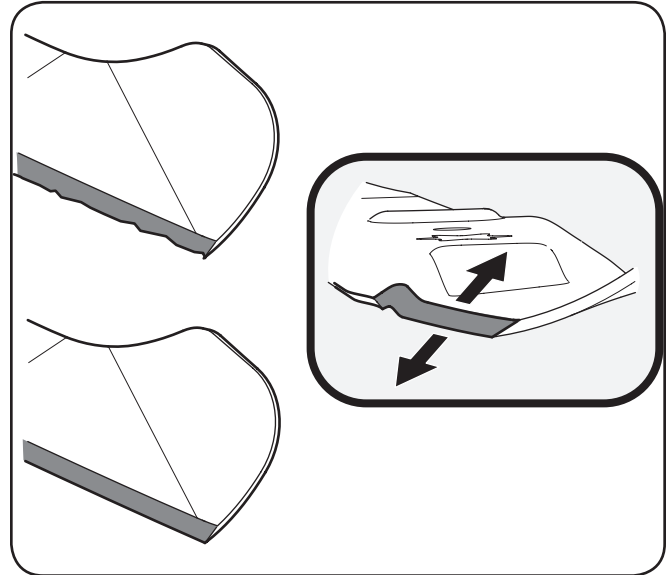

Figure 7-7
4. To properly sharpen the cutting blades, remove equal amounts of metal from both ends of the blades along the cutting edges, parallel to the trailing edge, at a 25° to 30° angle. Always grind each cutting blade edge equally to maintain proper blade balance. See Figure 7-7.